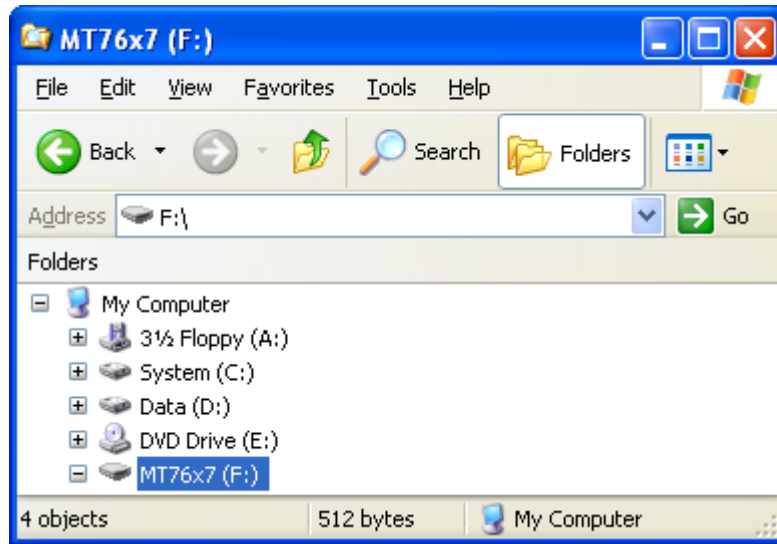

Figure 10. New removable storage detected
- 3) Navigate to **Computer** on your PC to check if a new mass storage named **MT76x7** is available under **Removable Disk**, as shown in Figure 10.